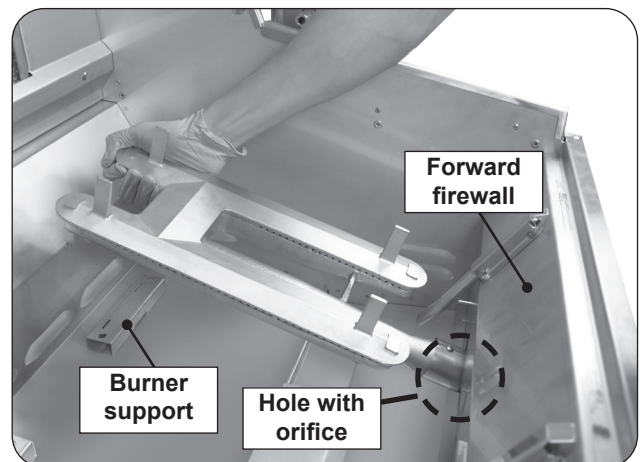

Fig. 44-2 Remove burners
3. Carefully lift the burner from the burner support and out from the hole in the forward fire wall. See Fig. 44-2.